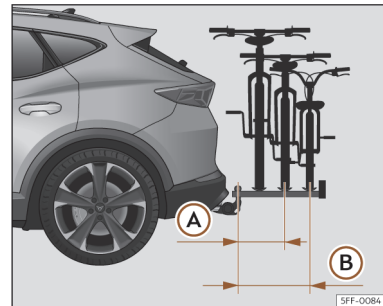

Fig. 189 Schematic representation of the maximum load overhang of a bicycle rack for two or three bicycles.
- (A)** With up to 55 kg load capacity: 500 mm (approx. 19.7 in)
- (B)** With 75 kg load capacity: 700 mm (approx. 27.6 in)
The maximum overhang shall not exceed 500 mm from the centre of the ball head to the to the centre of the rail of the last support >>> **Fig. 189 (A)** for two-bicycle racks. In the case of three-bicycle racks, the overhang must not exceed 700 mm >>> **Fig. 189 (B)**.